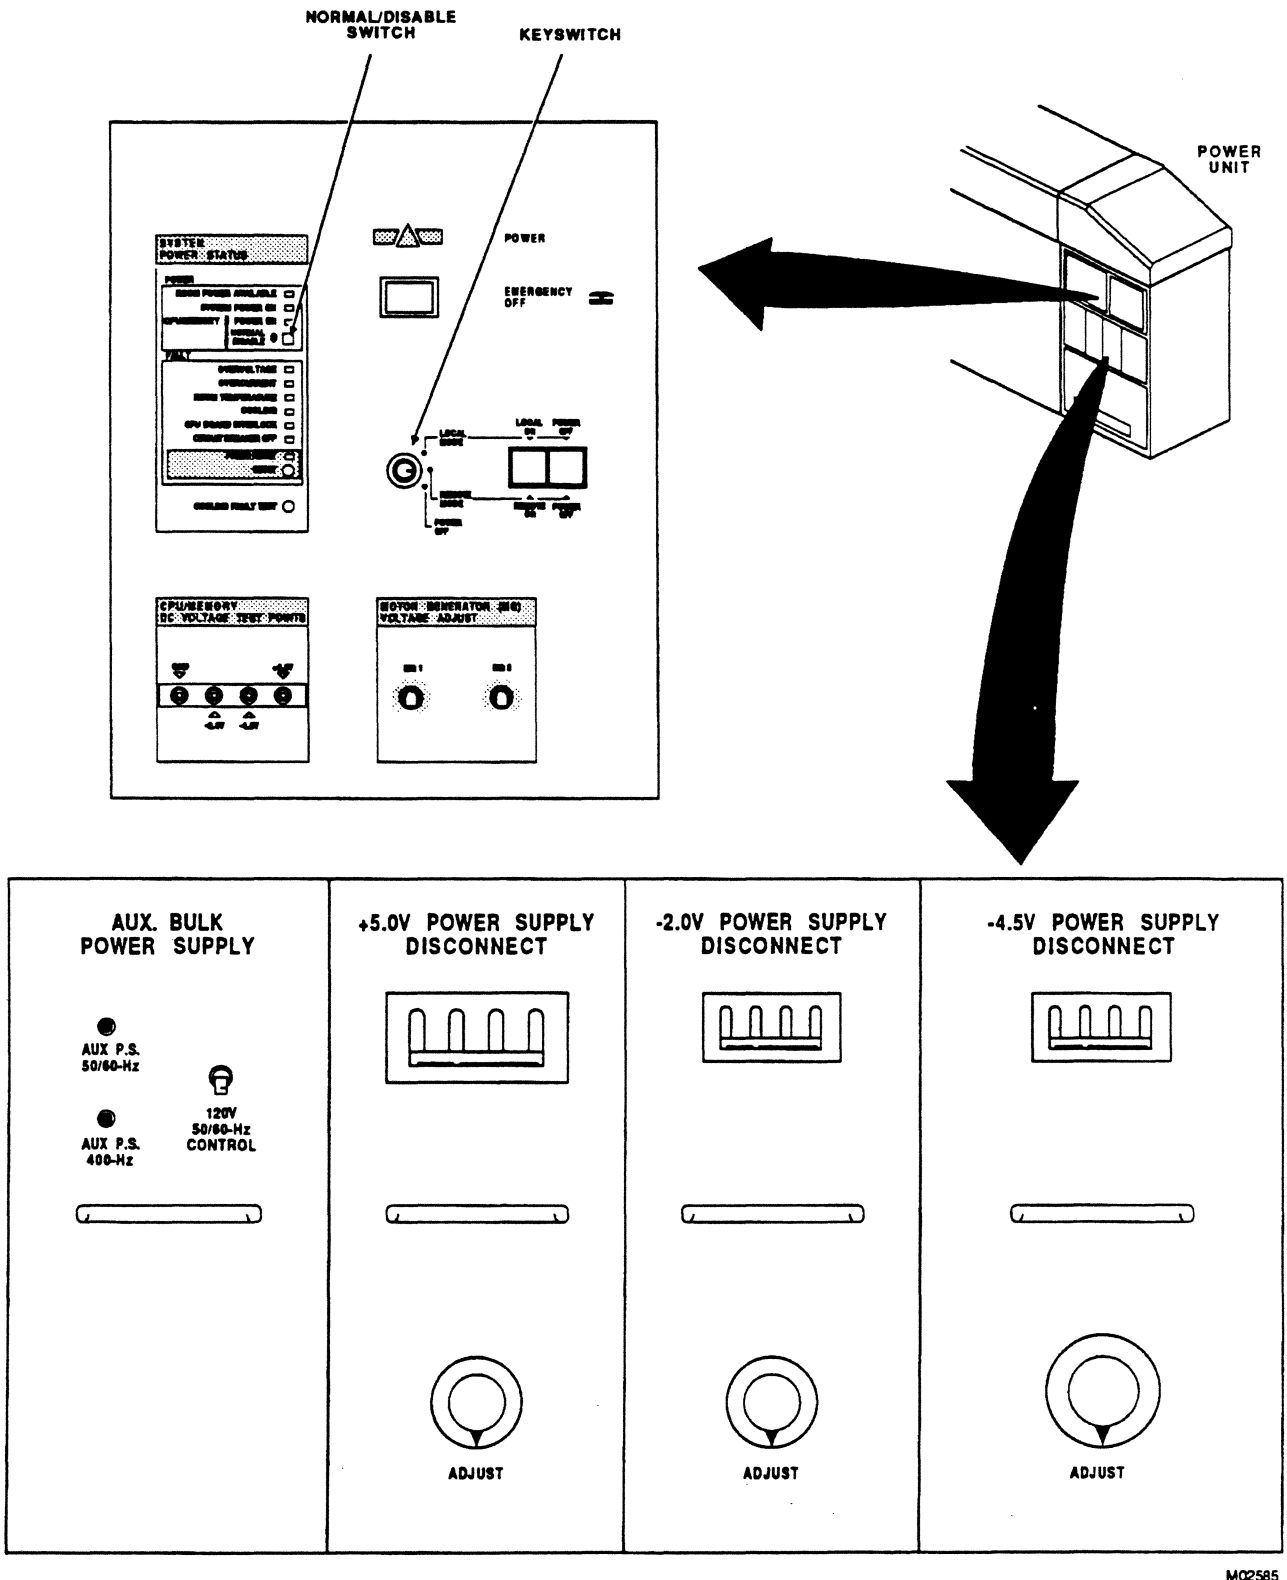

Figure 2-55. Power Unit Front Controls
- ___ 3. Set circuit breakers and controls at front of power unit (figure 2-55) as follows: